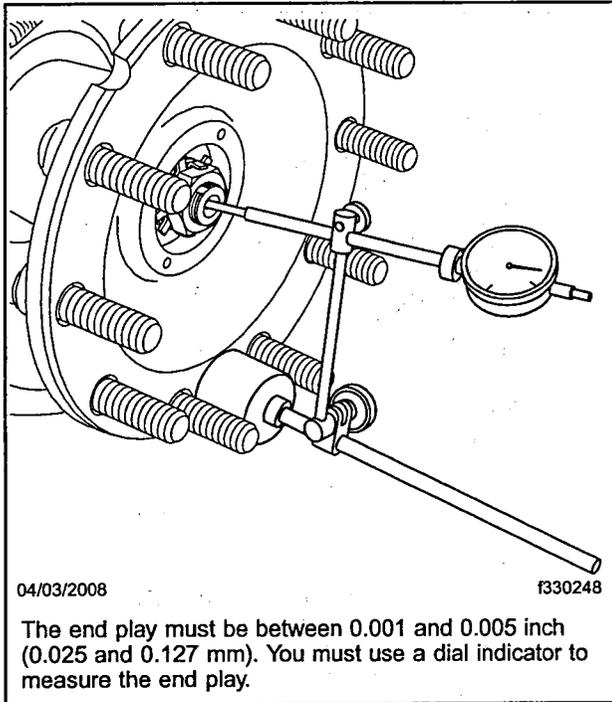

Fig. 7, Using the Dial Indicator
3. Attach a dial indicator to the hub, and set the point of the indicator in line with the end of the axle spindle. The point of the indicator should be parallel to the spindle axis. See Fig. 7.